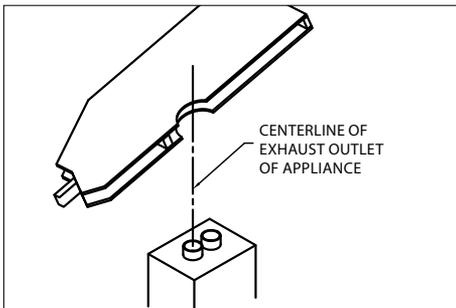

Figure 16
1. Locate penetration. (Fig.16)